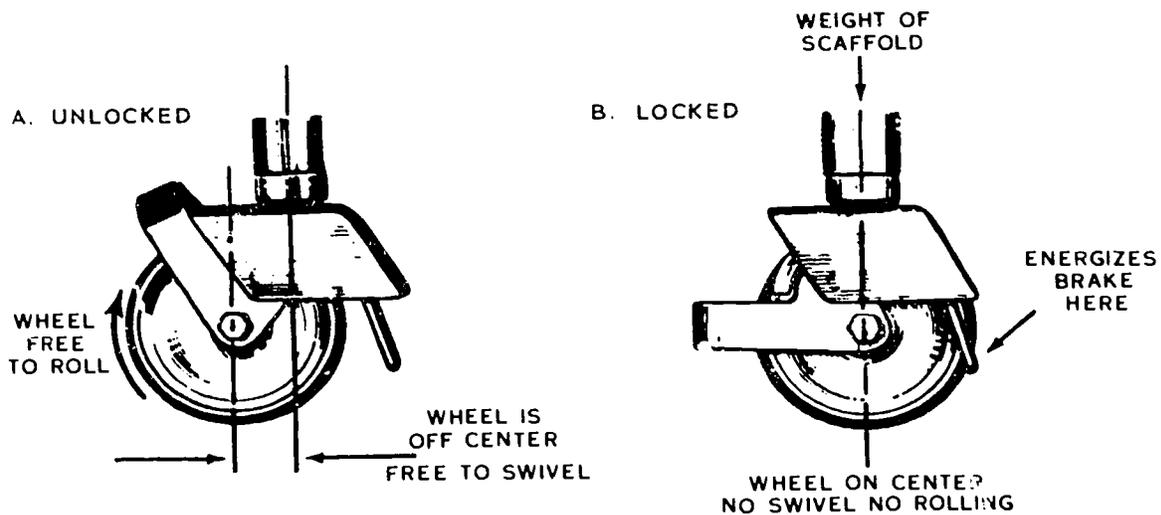

FIGURE 19. Lock the caster brakes
e. Before climbing the ladder, lock all caster brakes, as shown in Figure 19. Never roll the scaffold with anyone on it. Pushing the lever down sets the caster brake and moves the wheel to dead center position for maximum scaffold rigidity. The greater the load on the scaffold, the greater the braking action.